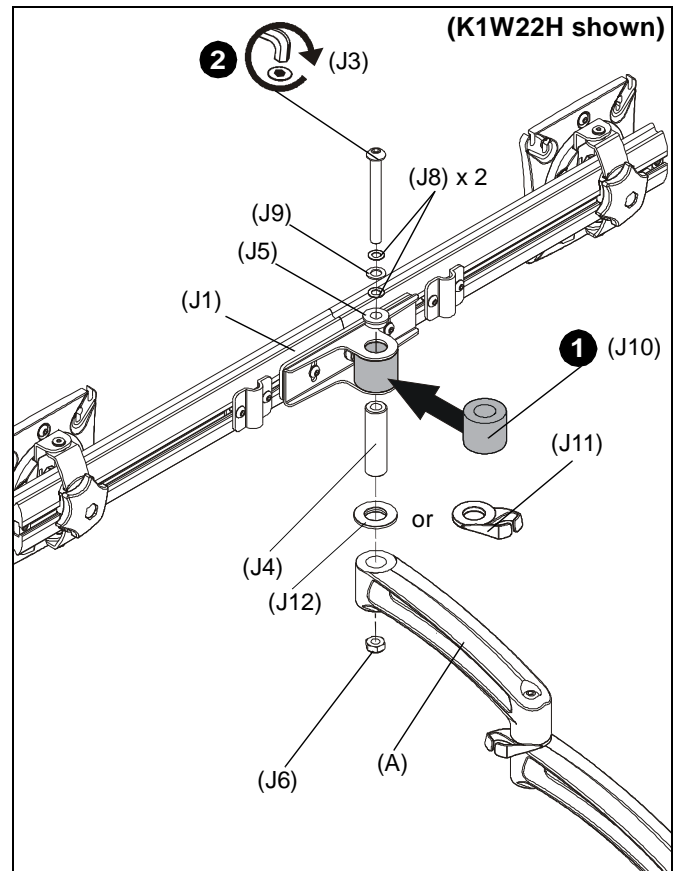

Figure 2
1. Slide rotational spacer (J10) into opening on array attachment bracket. (See Figure 2)
2. Use 5/16-18 x 3" button head cap screw (J3), two thin steel washers (J8), plastic spacer (J9), pocket washer (J5), pivot pin (J4), pivot point spacer (J12) and 5/16-18 lock nut (J6) to secure array (J1) to K2 arm (A). (See Figure 2)
spacer (J12) if additional cable management is desired. (See Figure 2)